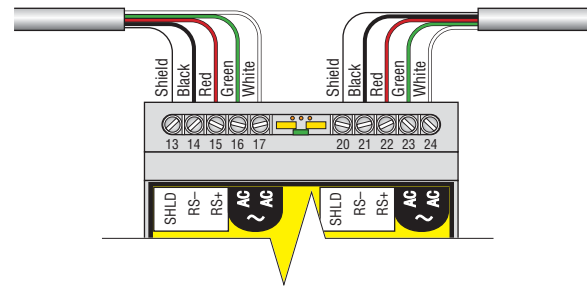

Figure 4. Power and Telemetry Connections
- Strip the primary wires to expose approximately 6 mm (1/4") of conductor and make the following connections: (see Figure 4)